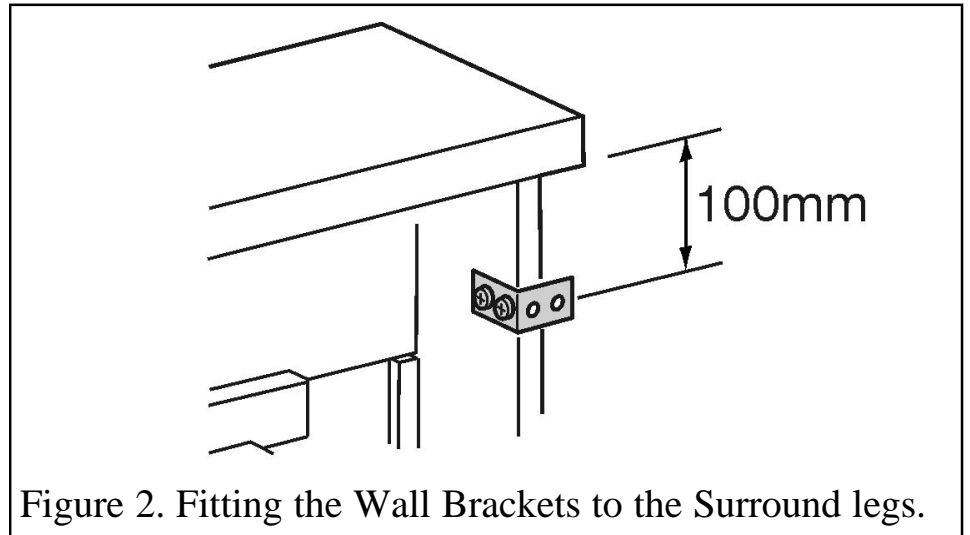

Figure 2. Fitting the Wall Brackets to the Surround legs.
- Lay the surround (A) onto a smooth, flat, clean surface with the inside facing upward. Place wall fixing brackets (B) 100mm from the top outside edge of the legs as shown in figure 2. Secure in place using four screws (C).